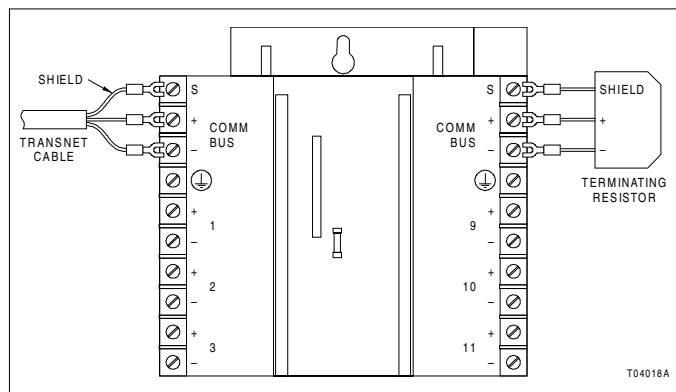

Figure 3-38. Module Terminating Resistors
Figure 3-38 shows the terminator connections to a module. Terminating resistors are attached at the last module on the bus.
NOTE: In Figure 3-38, the chassis terminal on the base is connected to the internal ground of the CPU in the module. Under normal circumstances it is not necessary to ground this terminal.
The terminating resistors have polarity, and should not be installed upside down (Fig. 3-38). The termination circuits for the positive (+) and negative (-) pins of the terminator are identical, and can therefore be used interchangeably. The shield (S) pin of the terminating resistor is **not** interchangeable; always connect it to a shield (S) connection.